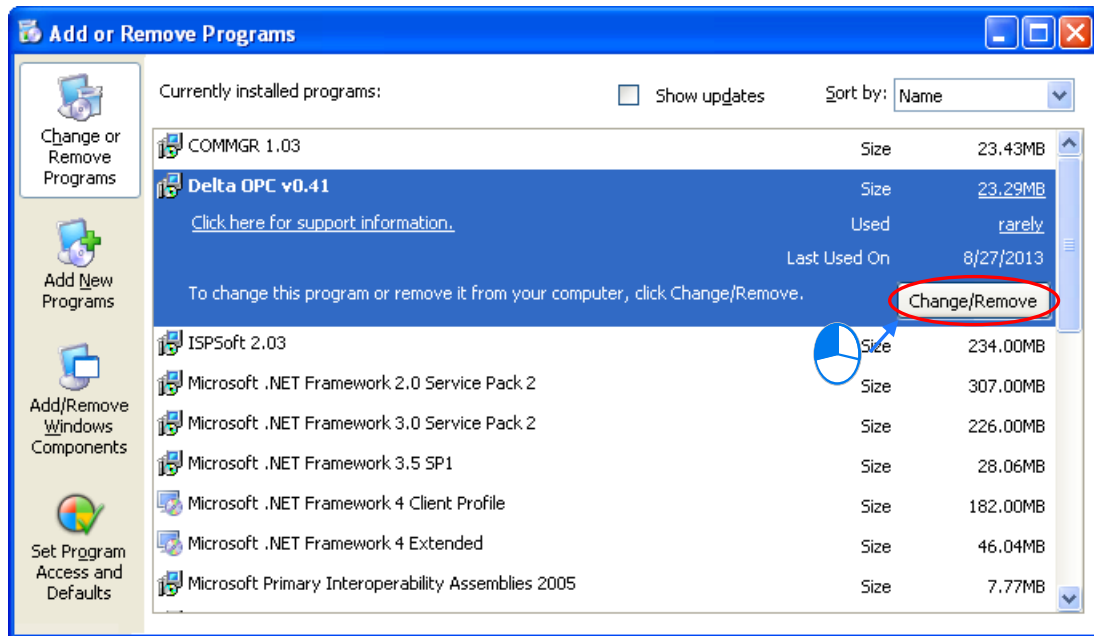

Figure 1-7 Uninstalling Delta OPC
(1) There are two methods of uninstalling Delta OPC.
- Method 1: Open the **Control Panel** window, and click **Add or Remove Programs**. In the **Currently installed programs** box, click Delta OPC vx.xx, and then click **Remove**. x.xx denotes the version of Delta OPC, as shown in figure 1-7.